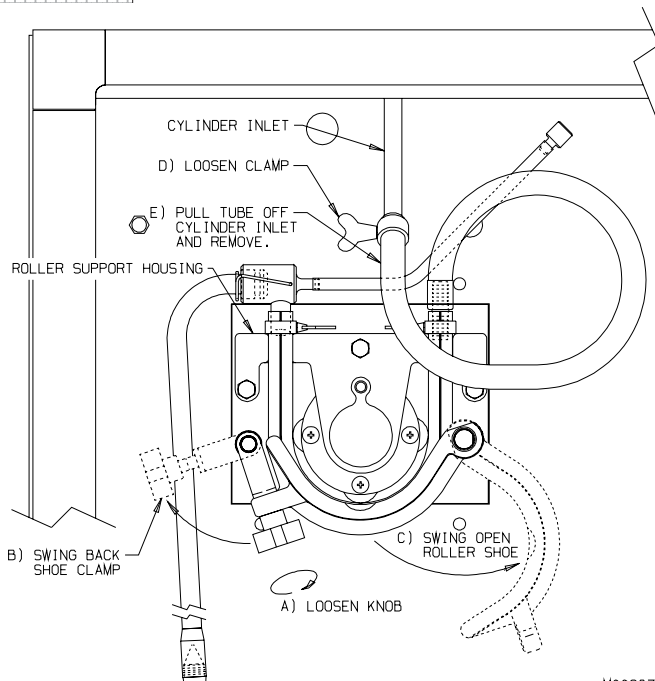

Figure 6-4 MTS
12. Remove MTS hose assemblies from the Mix Transfer Systems as follows (figure 6-4):